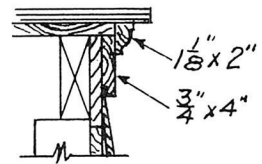

Fig. 2
7. List the material for the Rake cornice, Figure 2, of the main building.
- List the materials for the rake cornices, Fig. 2, both gables.